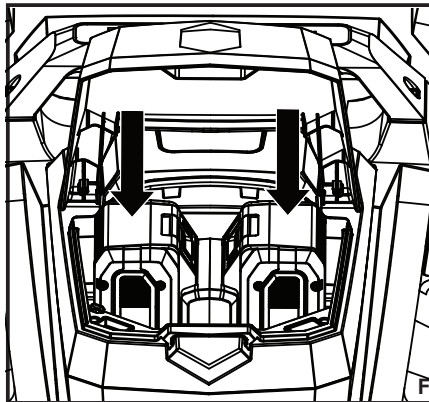

Fig. 11
3. Align the raised ribs on the mower with the grooves in the battery pack, and then insert the battery packs into the compartment (Fig. 11).